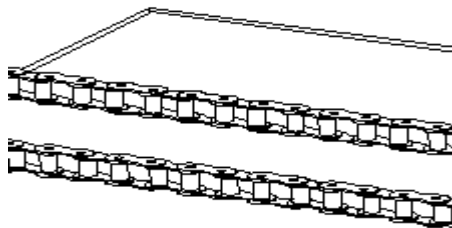
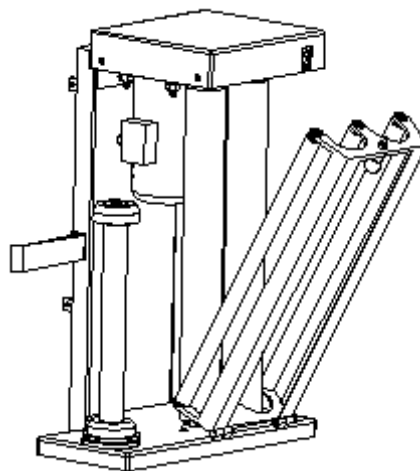

Fig.6-1
Fig.6-4(Pre-stretch)
1. Checks and interventions(Fig.6-1-- Fig.6-4